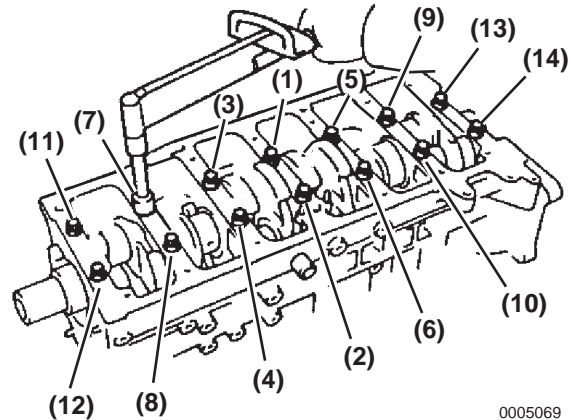

Figure 5-146
13. Install the 14 main bearing cap bolts (12 pointed head), and tighten them uniformly in several passes in the sequence shown in **Figure 5-146**.